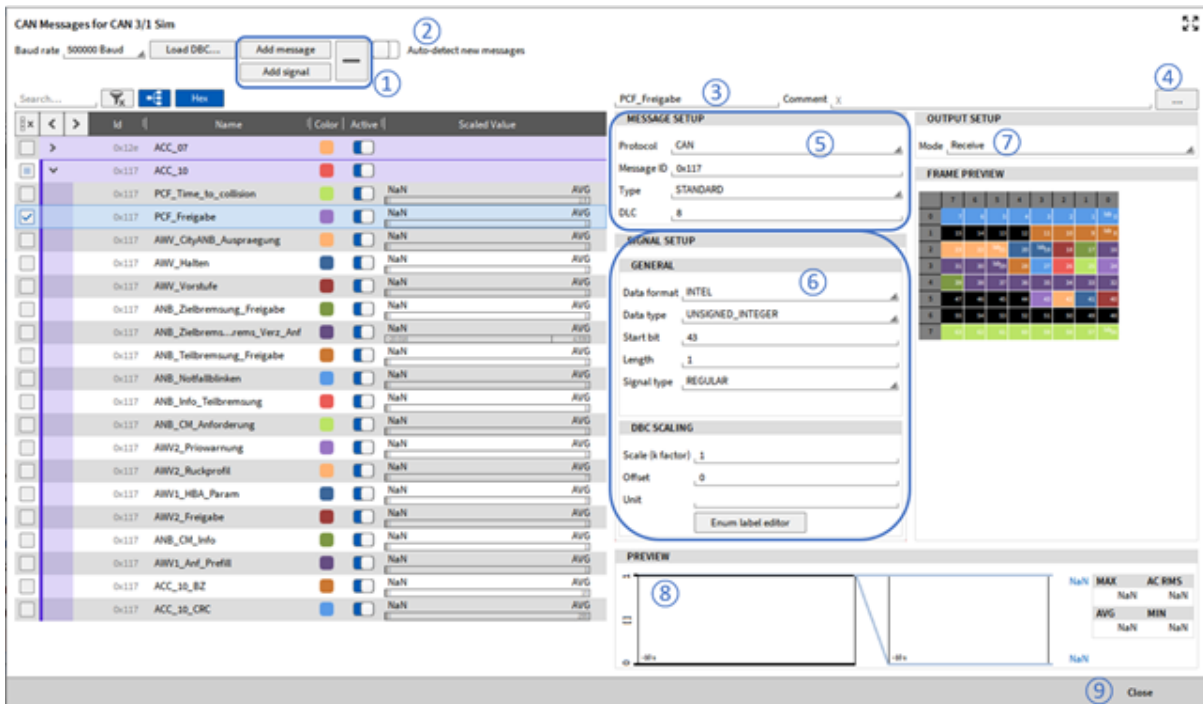

Fig. 7.196: CAN editor overview
- Manually add or delete CAN messages and signals (see ① in Fig. 7.196).
- Scan for CAN messages, which will automatically be created with their ID and DLC. After the scan, a name can be given and signals can be created (see ② in Fig. 7.196).
- Rename the currently selected CAN message and signal (see ③ in Fig. 7.196).
- Add comments to messages and signals (see ④ in Fig. 7.196).
- Edit CAN messages and access the same settings as described in section *CAN message setup* (see ⑤ in Fig. 7.196). With the enum label editor a text label can be defined for a specific, unique signal value which is then shown in the digital instrument (see also *Enum scaling*).
- Edit CAN signals and access the same settings as described in *CAN signal setup* (see ⑥ in Fig. 7.196).
- Set the CAN Message mode to Receive for acquiring data or transmit for outputting OXYGEN data over CAN (see ⑦ in Fig. 7.196).
- Providing a preview of the past 10 seconds of the signal to check if proper settings have been applied to the signal (see ⑧ in Fig. 7.196).
When finished you can exit the CAN editor again by pressing the Close button (see ⑨ in Fig. 7.196).